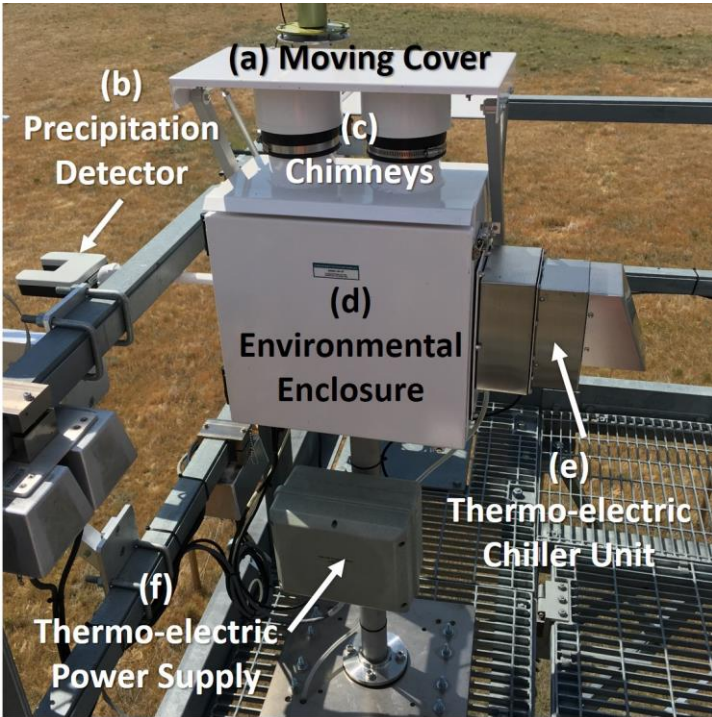
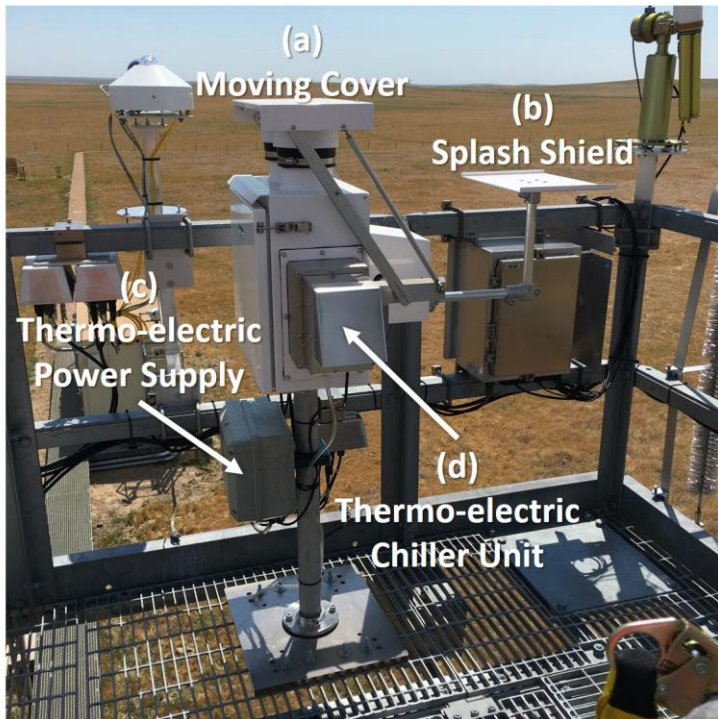
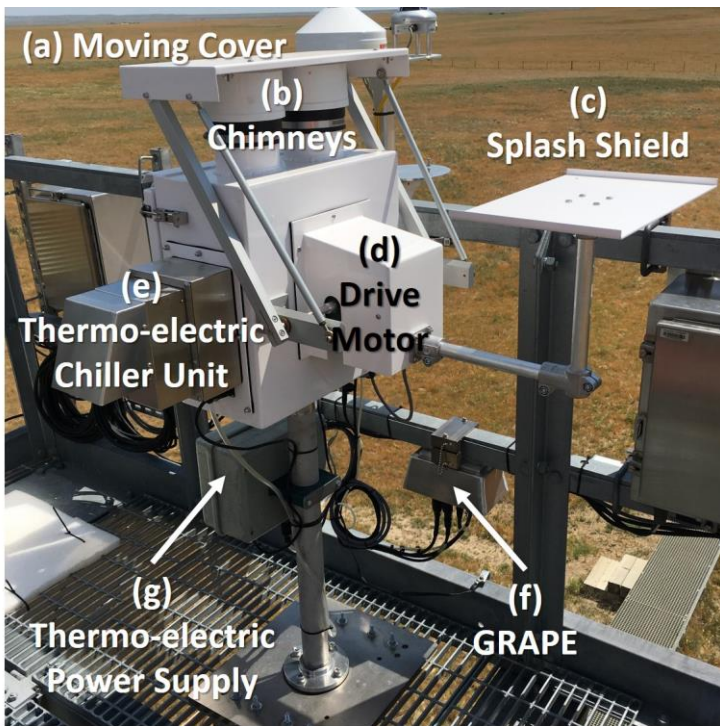
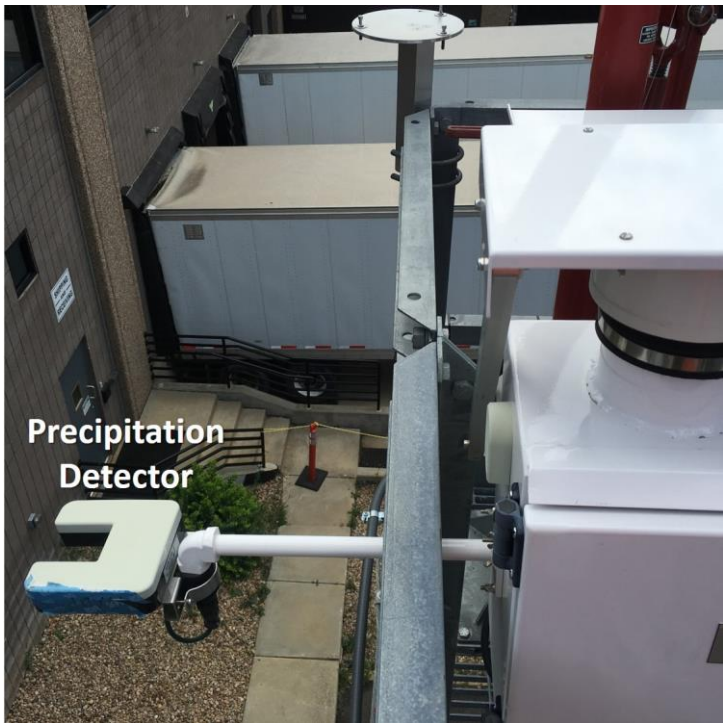

Figure 1. A front view of the main components of the N-CON TM 00-127-07 wet deposition collector. See also Figure 2 and Figure 3.
Figure 2. A side view of the main components of the N-CON TM 00-127-07 wet deposition collector. See also Figure 1 and Figure 3.
Figure 3. A rear view of the main components of the N-CON TM 00-127-07 wet deposition collector. See also Figure 1 and Figure 2.
Figure 4. A view of the precipitation detector. This unit is typically located on an extension arm projecting from the environmental enclosure.
- Environmental Enclosure with Chimneys (see Figure 1, and Figure 3)
- Moving Cover (see Figure 1, Figure 2, and Figure 3)
- Splash Shield (see Figure 2, and Figure 3)
- Precipitation Sensor (see Figure 1, and Figure 4)
- Thermo-electric Chiller Unit (see Figure 1, Figure 2, and Figure 3)
- Thermo-electric Chiller Power Supply (see Figure 1, Figure 2, and Figure 3)
- Concord GRAPE 24V (see Figure 3)